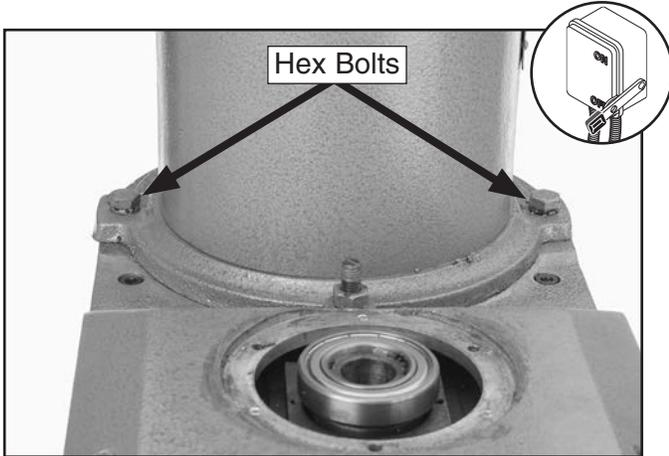

Figure 77. Motor mount hex bolts.
- Remove the motor mount hex bolts shown in **Figure 77**.